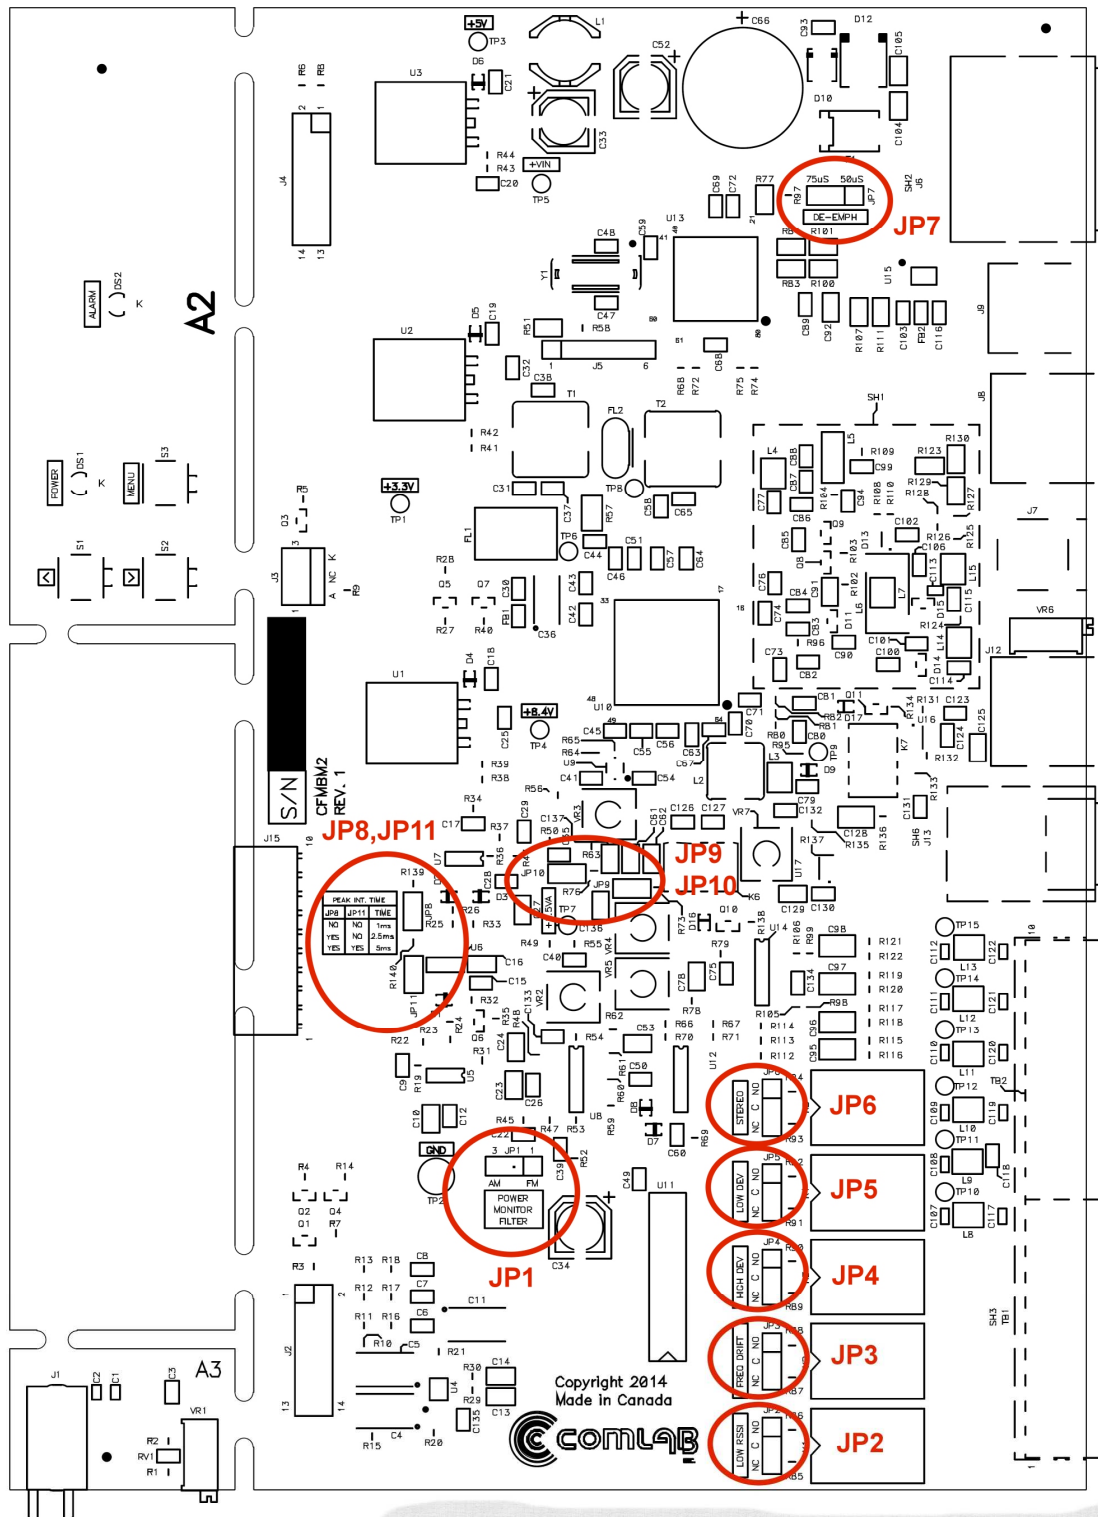

Figure 20 Printed Circuit Board Layout and jumper locations
This jumper sets the de-emphasis curve to either 75 μ S or 50 μ S, depending on the region of the world where the FMBM is being used. This jumper is located near the 12Vdc XLR Power connector as shown at the top right of Figure 20. Set the jumper for the desired de-emphasis curve as indicated on the PCB silk screen. For deliveries in North America, the jumper is set to the 75 μ sec position, for European destinations, it is set to the 50 μ sec position.
These 5 jumpers set the default connection mode of the alarm relay outputs. They can each be individually set to Normally Open (NO) or Normally Closed (NC). The 5 jumpers are located as shown at the bottom right of Figure 20. Set the jumpers as shown on the PCB silk-screen.
The Power Monitor filter jumper adds extra filtering to the detected signal envelope in order to smooth out variations when in AM mode. This helps to improve the RF Power detection readings when operating on the AM band. This jumper's location is shown at the bottom left of Figure 20. Set the jumper as shown on the PCB silk-screen. Default position is set to FM.